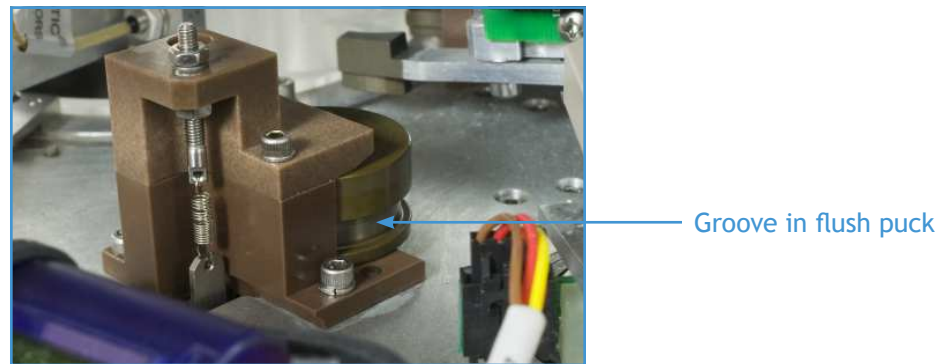

Figure 1-11: Flush Puck properly oriented
8. When placing the Flush Puck into the garage, make sure it is oriented correctly. The groove in the puck must be nearest to the stage. See Figure 1-11.